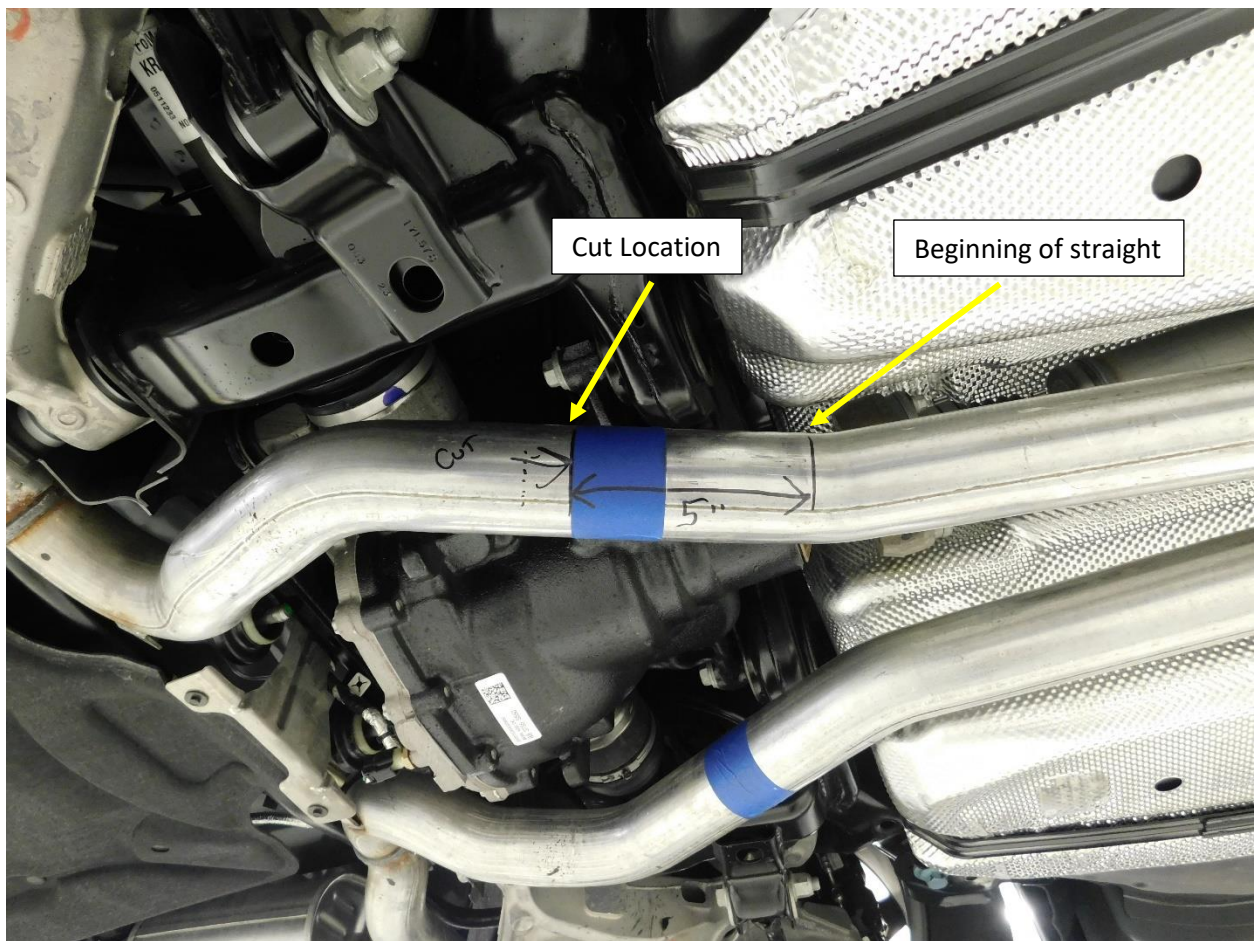

Figure 3
4. Mark the exhaust pipe between the center resonator and the muffler, as shown in **Fig 3**.
- Use a reciprocating saw or cut off wheel and cut the exhaust at the edge of the tape as shown in **Fig 3**.